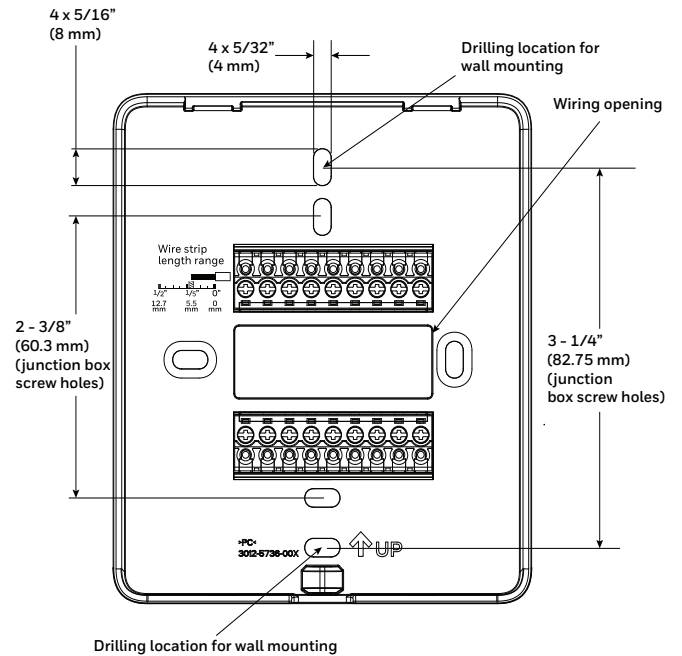

Fig. 8. Wallplate drilling locations
3. Pull the wires through the wiring opening of the wallplate and position the wallplate along the junction box to align the mounting holes. For junction box screw holes, refer to Fig. 8.